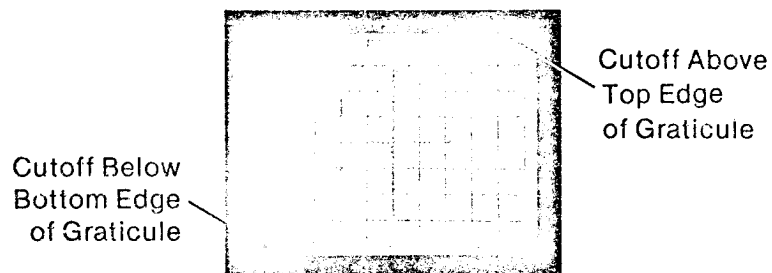

Figure 27. CRT Trace With Front-Panel **VERT GAIN** Control Correctly Adjusted
- k. On the 8557A, 8558B or 8565A, adjust the **TUNING** control slightly to obtain a trace that flattens at the top and bottom as shown in Figure 27.
- l. Adjust the 8750A **VERT GAIN** control to move both flat cutoff sections of the trace outside the top and bottom of the CRT graticule area (See Figure 27).